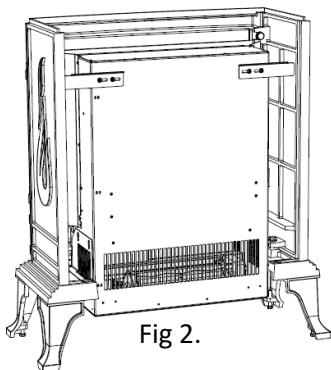
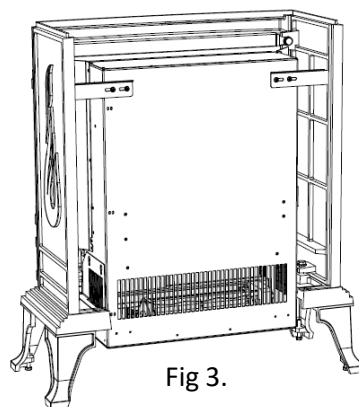

Fig 2.
Fig 3.
6. Once the engine is located into the stove body, the upper support brackets need to be moved outwards and the screws tightened to secure the engine in position. Fig 2 shows the brackets before being adjusted, Fig 3 shows after the brackets have been moved to secure the engine.